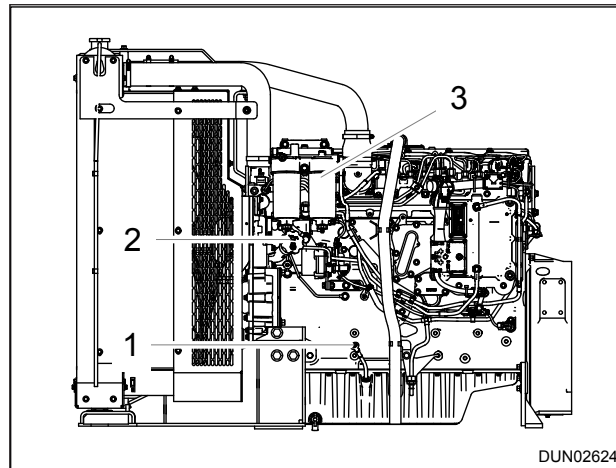

Figure 9.39 - Engine Oil Filler Cap & Dipstick
2. Remove dipstick (Item 1, Ref: Figure 9.39) from the engine and clean. Re-insert the dipstick fully.
3. Remove the dipstick again and observe that the oil level is between the minimum and maximum levels. If the level is below the minimum mark oil has to be added through the filler cap (Item 2, Ref: Figure 9.39) .